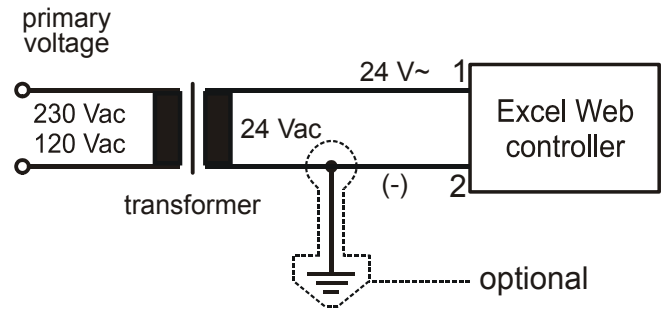

Fig. 12. Connection of Excel Web
- Several Excel Web controllers can share a single common transformer. In this case, you must ensure that terminal 1 of each of the Excel Web controllers is connected to 24 V and terminal 2 is connected to the minus pole (optionally, terminal 2 can additionally be connected to the earth) (see also Fig. 12).
- In the event you wish to connect one of the 24 Vac pins to the earth ground, connect it via terminal 2 of the lower removable terminal plug (see also Fig. 12).